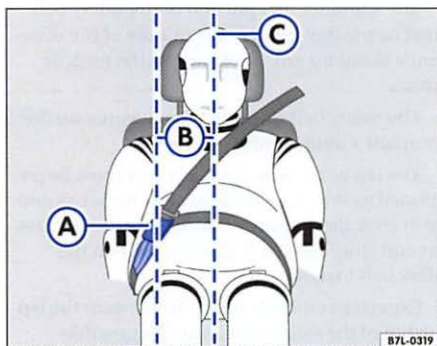

Fig. 56 Positioning of the safety belt extender.
Key to fig. 56:
- Never use a safety belt extender if the distance (B) between the front edge of the safety belt extender buckle (A) and the centerline of the person using the safety belt extender $\Rightarrow$ page 76, fig. 56© is less than 6 inches (15 cm).